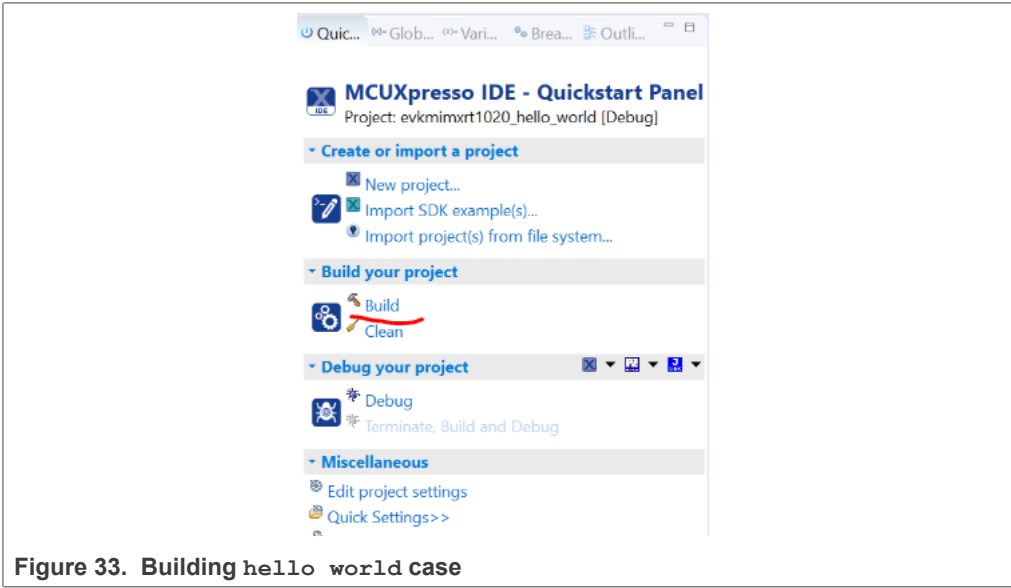

Figure 33. Building hello world case
6. On the **Quickstart** panel, click **build** **evkmimxrt1024_demo_apps_hello_world [Debug]** , as shown in Figure 33.